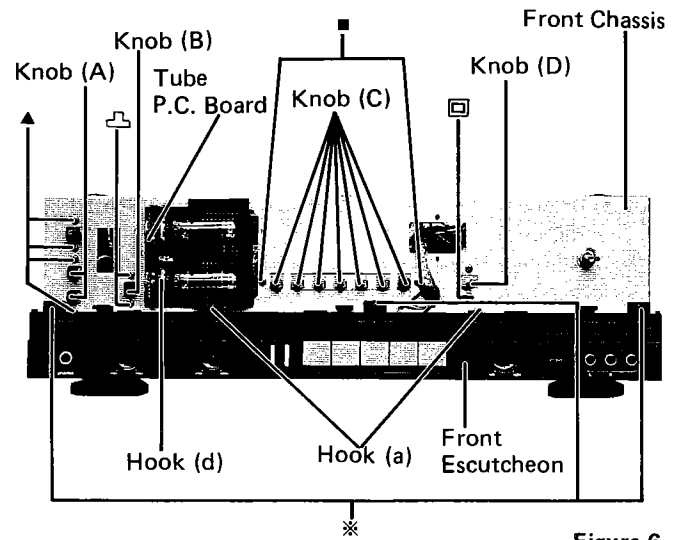

Figure 6
- (1) Remove three knobs (A) and remove four screws marked "▲" as shown in Figure 6.
- (2) Disconnect all wires from the Speaker Switch P.C. Board.
- (1) Remove one knob (B) and remove two screws marked "▽" as shown in Figure 6.
- (2) Disconnect all wires from the Heat up Switch P.C. Board.
- (2) Remove one hook (d) as shown in Figure 6.
- (3) Disconnect all wires from the Tube P.C. Board.
- (1) Remove two screws marked "■" and remove seven knobs (c) as shown in Figure 6.
- (2) Disconnect all wires from the Rec Selector P.C. Board.
- (1) Remove one knob (D) and remove two screws marked "□" as shown in Figure 6.
- (2) Disconnect all wires from the MM/MC P.C. Board.